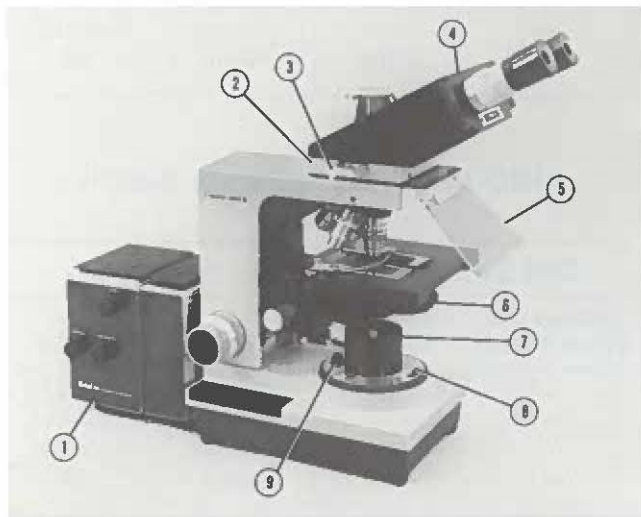

FIGURE 6-1 BALPLAN TRANSMITTED-FLUORESCENCE MICROSCOPE
6.1 Installation of Research Base Illuminator Figure 6-1 shows the BALPLAN microscope with the transmitted-fluorescence system installed.
6.8.1 Be sure that the field diaphragm is open and that the diffuser is out of the light path. (Figure 6-1)